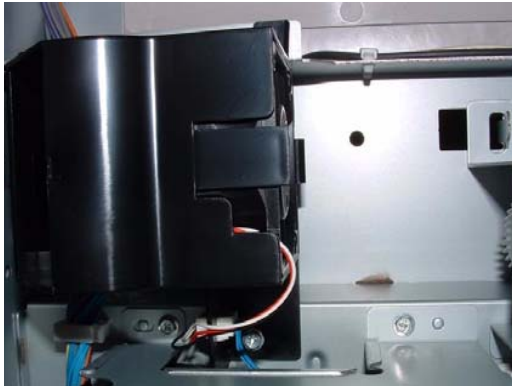

Figure 1 Rear Fan
3. Remove the screw (A).
4. Unplug connector (B).
5. Remove the Rear Fan (Figure 1).